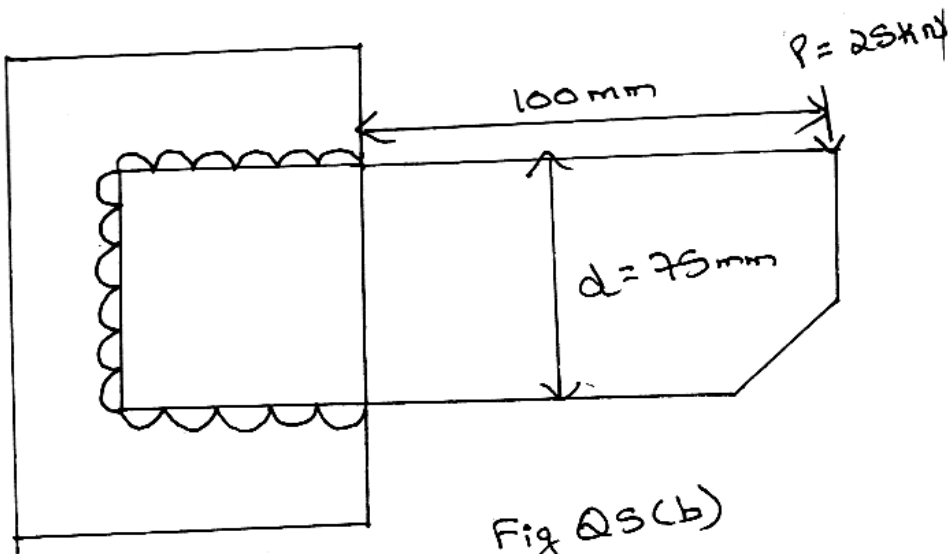

Fig Q5(b)
- b. Determine the size of weld required for an eccentrically loaded weld as shown in Fig. Q5(b). The allowable stresses in the weld is 75 N/mm². 10 L3 CO5 PO1,2,3